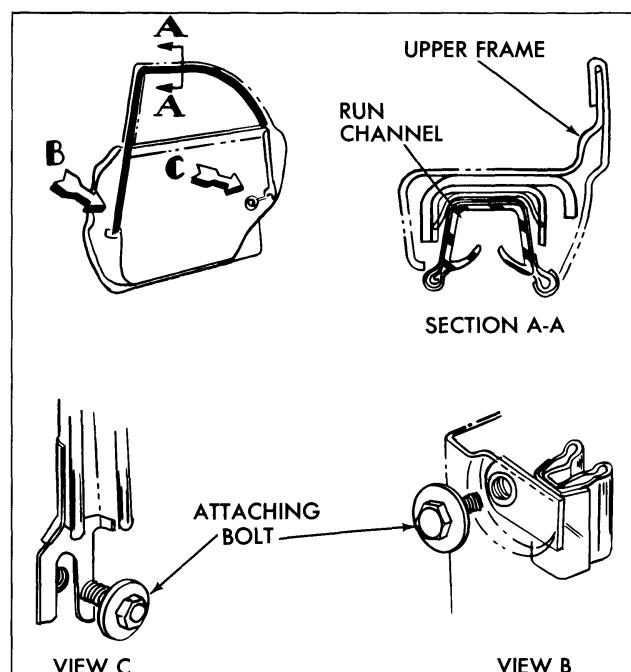

Fig. 3-54 Glass Run Channel - 4-Door Sedan
3. In the event of an excessively loose door glass, the run channels can be moved closer to glass by adding shims (washers) between door lock or hinge pillar panel and run channel at attaching bolt locations. Fig. 3-54 shows glass run channel attaching bolt locations.
3. Remove front and rear attaching screws from hinge and lock pillar facing of door inner panel (Fig. 3-54).